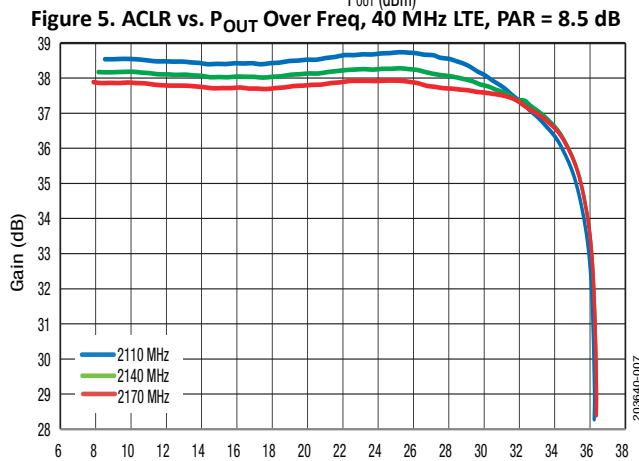

Figure 7. Gain vs. P_{OUT} Over Freq
3. Refer to the performance plot in Figure 7.